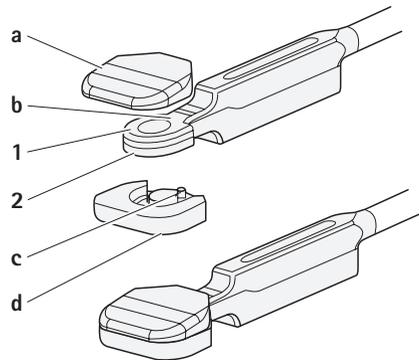

Fig. 14 Coupling the trial implants
- ▶ Turn twist cap **10** counterclockwise until jaw pieces **1** and **2** are in contact with each other and the scale **4** reads less than 8.5 mm, see Fig. 14.
- ▶ Pull at the right and left sides of trial implant **a** or **d**, respectively while simultaneously applying counterforce on sheath **3** of the parallel distractor, see Fig. 14.